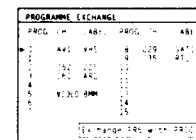

Fig. 14.
- 3 Select Programme Exchange with  $\rightarrow$  or  $\leftarrow$  and press OK. The PROGRAMME EXCHANGE menu appears. (See Fig. 14.)